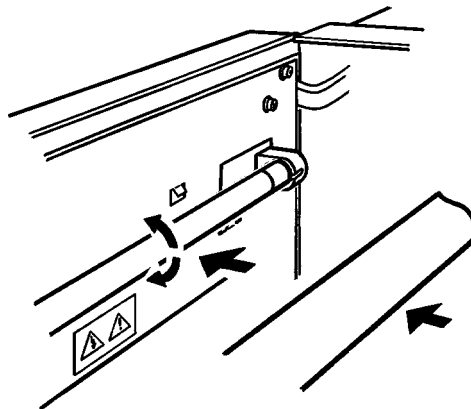

Figure 4.9.2e Fit lamp, lamp cover and warning label
9. Referring to figure 4.9.2e, take the fluorescent tube and carefully insert it into the connectors. Rotate the tube through 90°. **THIS ROTATION IS ESSENTIAL FOR MAXIMUM LAMP LIFE.**